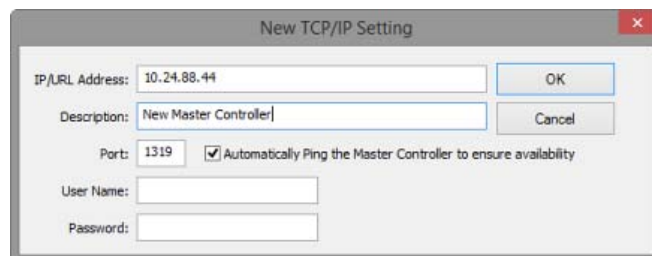

FIG. 131 New TCP/IP Setting dialog (indicating sample IP information)
1. In the *Communications Settings* dialog (*Network* tab), click **New** to open the *New TCP/IP Setting* dialog (FIG. 131).